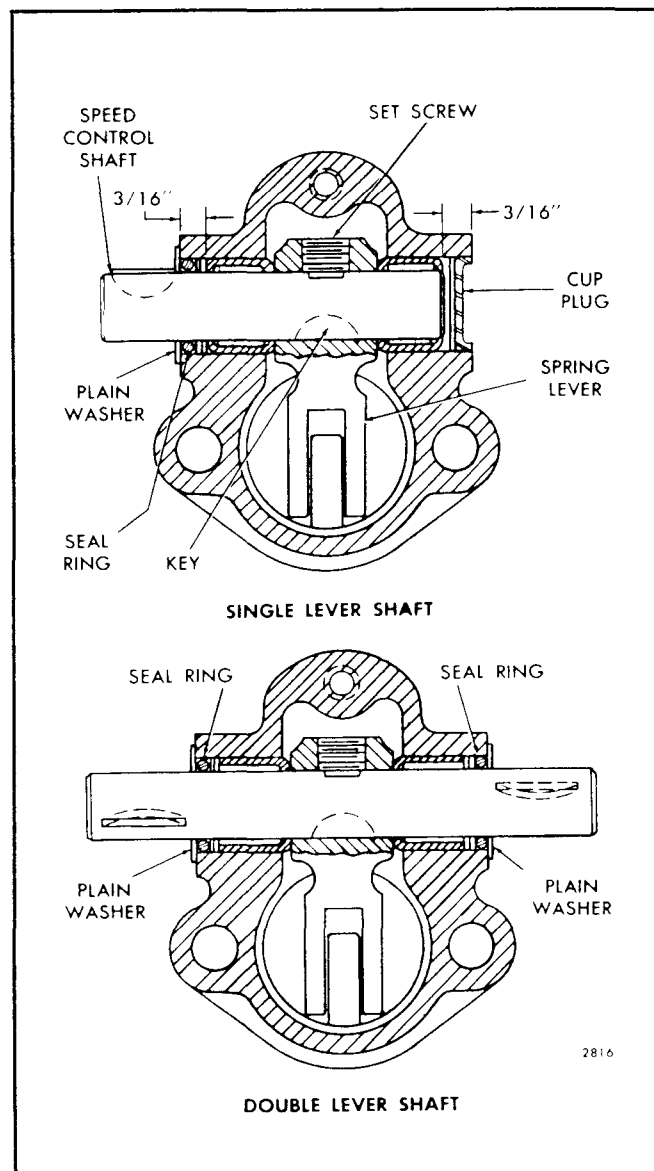

Fig. 6 - Governor Variable Speed Spring Housing
1. Lubricate the speed control lever shaft needle bearings with Shell Alvania No. 2 grease, or equivalent. Then start one of the bearings, numbered end up, straight in the bearing bore in the right-hand side of the spring housing as viewed in Fig. 6.
7. Insert the correct end of the, single or double lever type, speed control lever shaft (Fig. 6) through the bearing bore in the side of the spring housing opposite the bearing previously installed. Align the key in the shaft with the keyway in the spring lever and push the shaft through the lever and in the bearing until the flat on the top of the shaft is centered under the set screw hole in the lever.